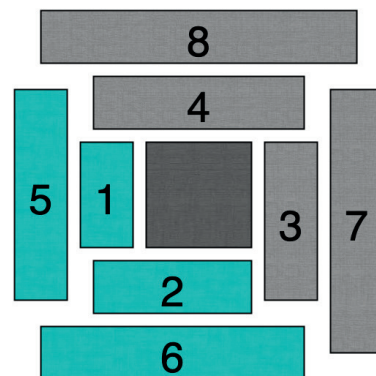

fig 1
- To make block 2, add the four short 1 ½" strips of T3 (or B9) and S5 to the 2 ½" square of S8 in the order shown in fig 1 from shortest to longest, pressing after each seam.